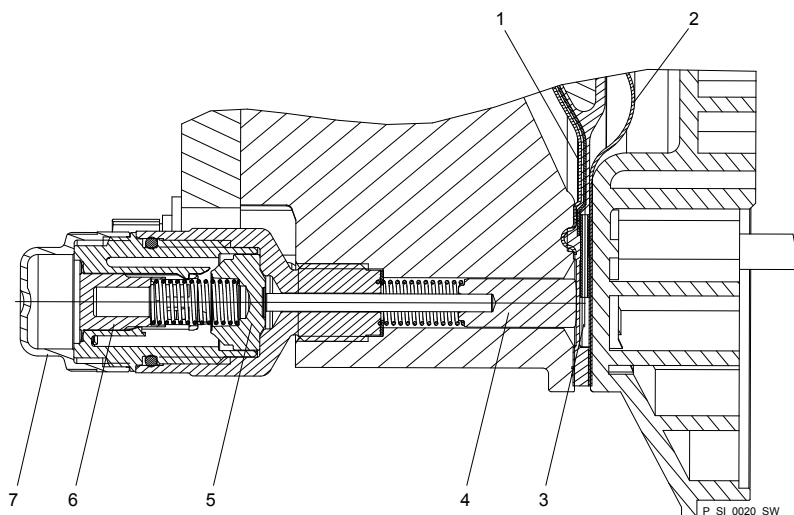

Fig. 39: Section through the Sigma diaphragm rupture warning system ("Visual break indicator" version)
2. If the piston of the diaphragm rupture sensor - see Fig. 39, item 4 - should have become dirty or damp, clean both it and the hole in which it runs.